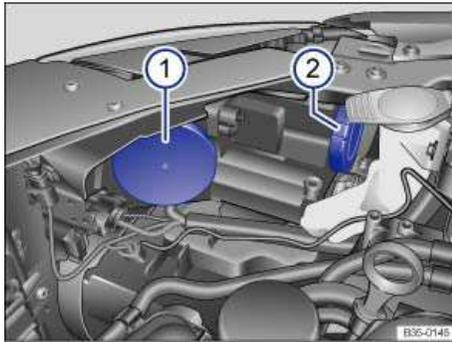
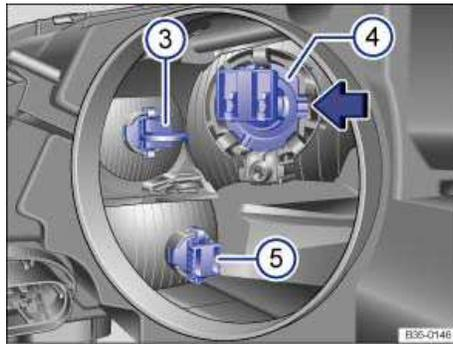

Fig. 200 In the engine compartment: Cover for cornering light, daytime running light, parking light and turn signal 1, HID headlights 2.
Fig. 201 Removing and installing the bulbs for the daytime running light and parking light 3, cornering light 4 or turn signal 5.
3. Pull the rubber cover on the rear side of the headlight to the side ⇒ fig. 200 \(1\).
4. Remove the bulb holder ⇒ fig. 201 \(3\) with the bulb and pull it toward the rear out of the headlight housing.
7. Insert the bulb holder with the new bulb in the original position in the headlight housing (3).
8. Install the rubber cover ⇒ fig. 200 \(1\).
3. Pull the rubber cover on the rear side of the headlight to the side (1).
4. Press in the direction of the arrow to remove the bulb holder ⇒ fig. 201 \(4\) with the bulb and pull it toward the rear out of the headlight housing.
7. Insert the bulb holder with the new bulb in the original position in the headlight housing (4) and press opposite to the direction of the arrow. The front of the bulb holder must fit correctly in the cutout on the headlight housing ⇒ fig. 201 (arrow).
9. Install the rubber cover ⇒ fig. 200 \(1\).
4. Press downward to remove the bulb holder ⇒ fig. 201 \(5\) with the bulb and pull it toward the rear out of the headlight housing.